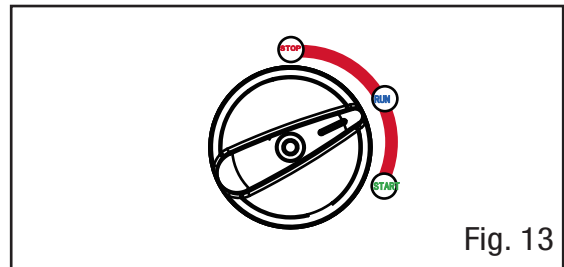

Fig. 13
4. Turn the Main switch to the “RUN” position. (Fig. 13)